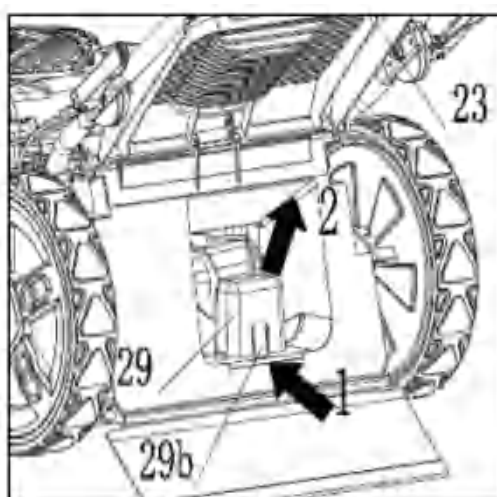

Fig. 15
2. Squeeze the locking latch (29b) and release it from the rear discharge chute slot (34), then remove the mulching insert (29) (Fig. 15).